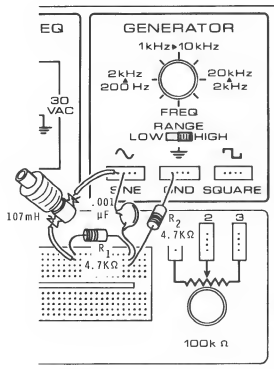

Figure 2-81
1. Construct the circuit shown in Figure 2-81.
in Figure 2-81.